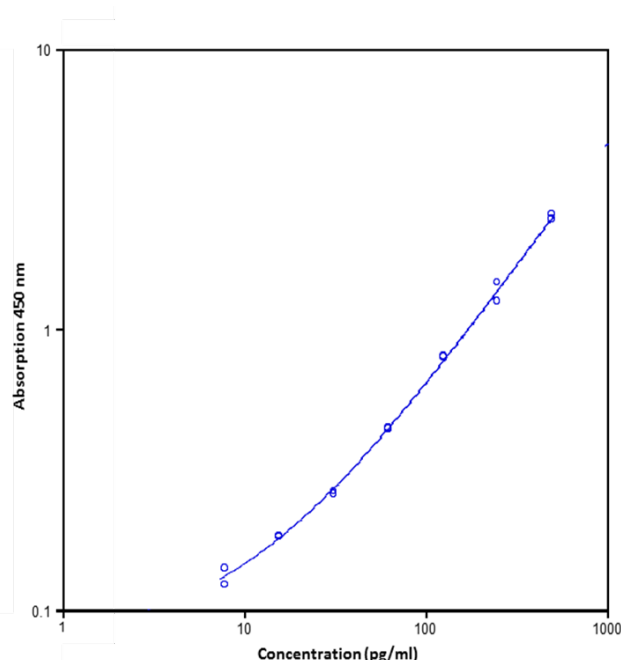

Fig. 8 Representative standard curve for Human IL-33 ELISA Kit. Human IL-33 was diluted in serial 2-fold steps in Calibrator Diluent.
- A representative standard curve is shown in Figure 8.